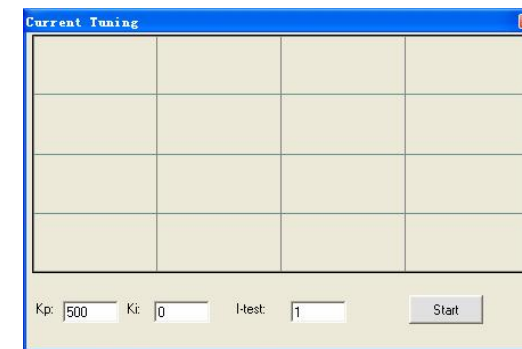

Figure 6-20: Initial value for Kp, Ki and I-test for current loop tuning
**Step 1:** See figure 6-20. Set **I-test** 1 and begin the tuning with small **Kp** and zero **Ki**. Here we give **Kp** 500. Please hit the “Enter” key after entering in the number.